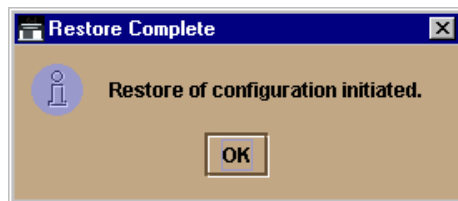

Figure 3-35: Restore Complete Dialog Box
- Click Yes. When the restore process finishes, the Restore Complete dialog box (Figure 3-35) displays.